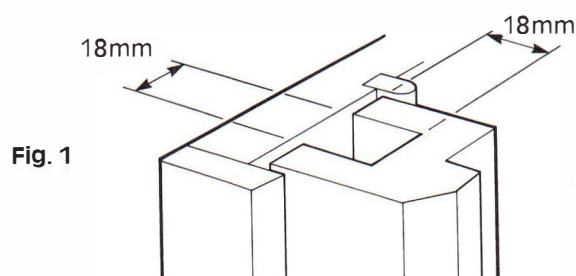

Fig. 1
- 1** Grooves to house balances can be in either frame jambs or in sash stiles, rounded or square and must be of minimum dimensions shown (Figs. 1 & 2). Bottom of sashes should be prepared to suit balance foot attachment to be used. Cut-outs to be sufficient depth to receive attachments and screw heads.